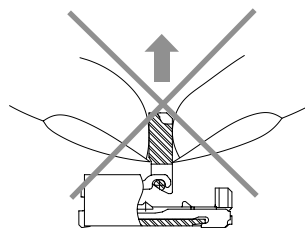

Fig. 3
- ③ The actuator will rotate 125°. Do not apply force to rotate further.
- ④ When opening or closing the actuator, do so at the center section.
- ⑤ Do not grasp or lift the actuator (Fig. 3) nor insert the nail from the back of it (Fig. 4).